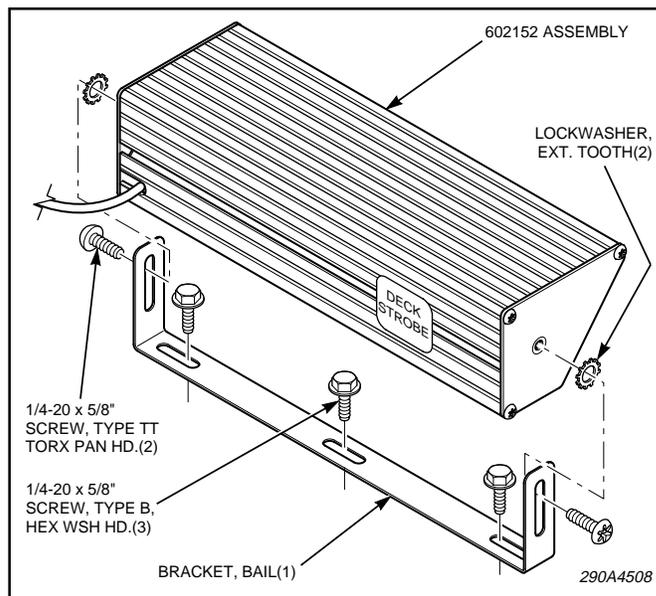
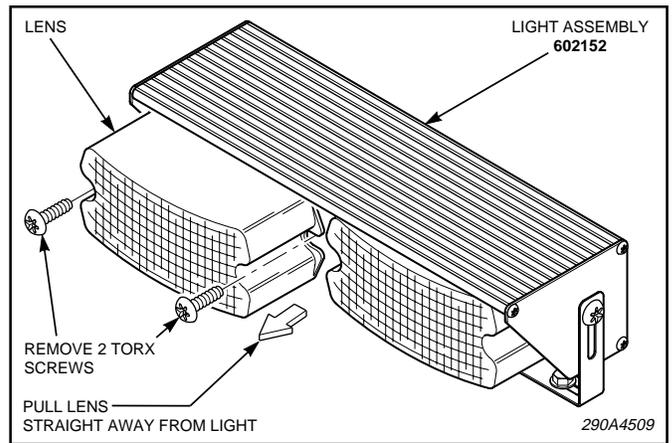

Figure 1.
Figure 2.
d. Secure the light assembly to the mounting bracket(s) using the 1/4" x 5/8" pan head Taptite screws and lockwashers as shown in figure 1.
a. See figure 1. Use the mounting bracket as a template and scribe mounting hole position marks on the mounting surface.
d. Secure the light assembly to the mounting bracket using the 1/4" x 1/2" hex head Taptite screws and lockwashers as shown in figure 1.
- Remove and retain the two screws and lockwashers which secure the light assembly to the mounting bracket (see figure 1). Remove and retain the two screws which secure the lens (see figure 2), and carefully pull the lens straight away from the light assembly.